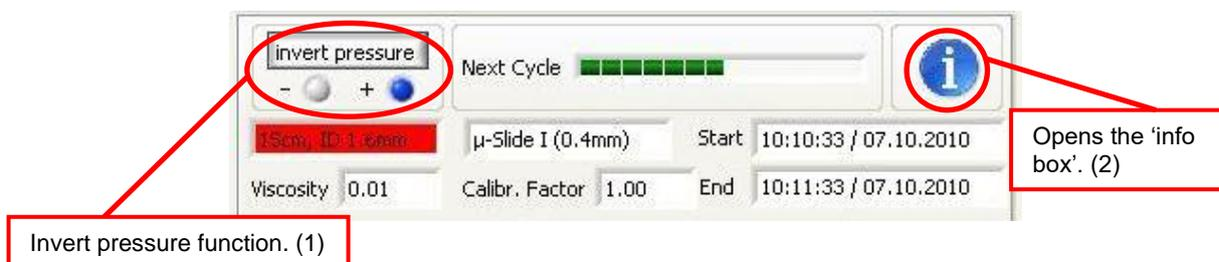

Figure 25: Overview and Information
- When you press the 'Save' button, after Steps 1-4, the new cycle list will be transferred to the main PumpControl menu. You can view the cycle list in the Cycle Overview table (see Figure 23) or by selecting the information box, as shown in section 4.2 (control 2 in Figure 25).
At the bottom of the 'Automatic Control' panel, in **Fehler! Verweisquelle konnte nicht gefunden werden.**, you'll find the overview and information sections like indicated in Figure 25.
In the middle of Figure 25, you'll find the horizontal progress bar, indicating the start of the next cycle. On the lower right-hand side, the experiment start and finishing times are shown. Next to this, the 'Fluidic Unit Setup' is displayed and shows the selected  $\mu$ -Slide, the Perfusion Set, the viscosity, and the calibration factor.
In this panel, you'll also find two functional buttons: 'invert pressure' and 'information'. With the 'invert pressure' button (control 1 in Figure 25), you can invert the airflow by switching between the positive and negative air pressure. Activating the 'information' button (control 2 in Figure 25), allows you to reach an overview table that lists the cycles you've created. In that menu, the active cycle is highlighted. More details can be found in section 4.2.